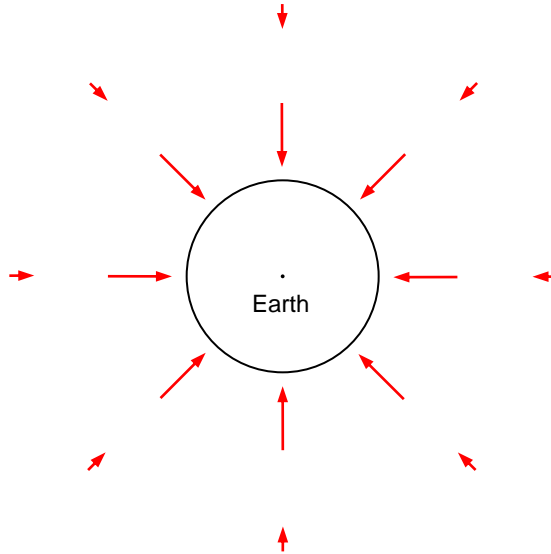

Figure 2
Now imagine moving the test mass to many different locations in the space surrounding Earth. As we do this, the gravitational force that the Earth exerts on the test mass will vary in magnitude and direction. In particular, the force will get weaker as the distance r is increased, as implied by Eq. (1), and the force will always point toward the center of the Earth. Thus we will get a collection of many gravitational force vectors – in principle, one for each point in space – as shown in Figure 2 below.
Note that since the test mass m_0 is an intrinsically positive quantity, the gravitational field \vec{g} is a vector that points in the same direction as \vec{F}_{grav} at each point in space. Thus, a picture showing the gravitational field vectors at many locations in the space surrounding Earth would look essentially the same as Figure 2. This distribution of gravitational field vectors is one example of a *vector field*. The magnitude of the gravitational field at a distance r away from the center of Earth is:
Note the striking similarity between this picture and the corresponding picture (Figure 2) for the gravitational force.